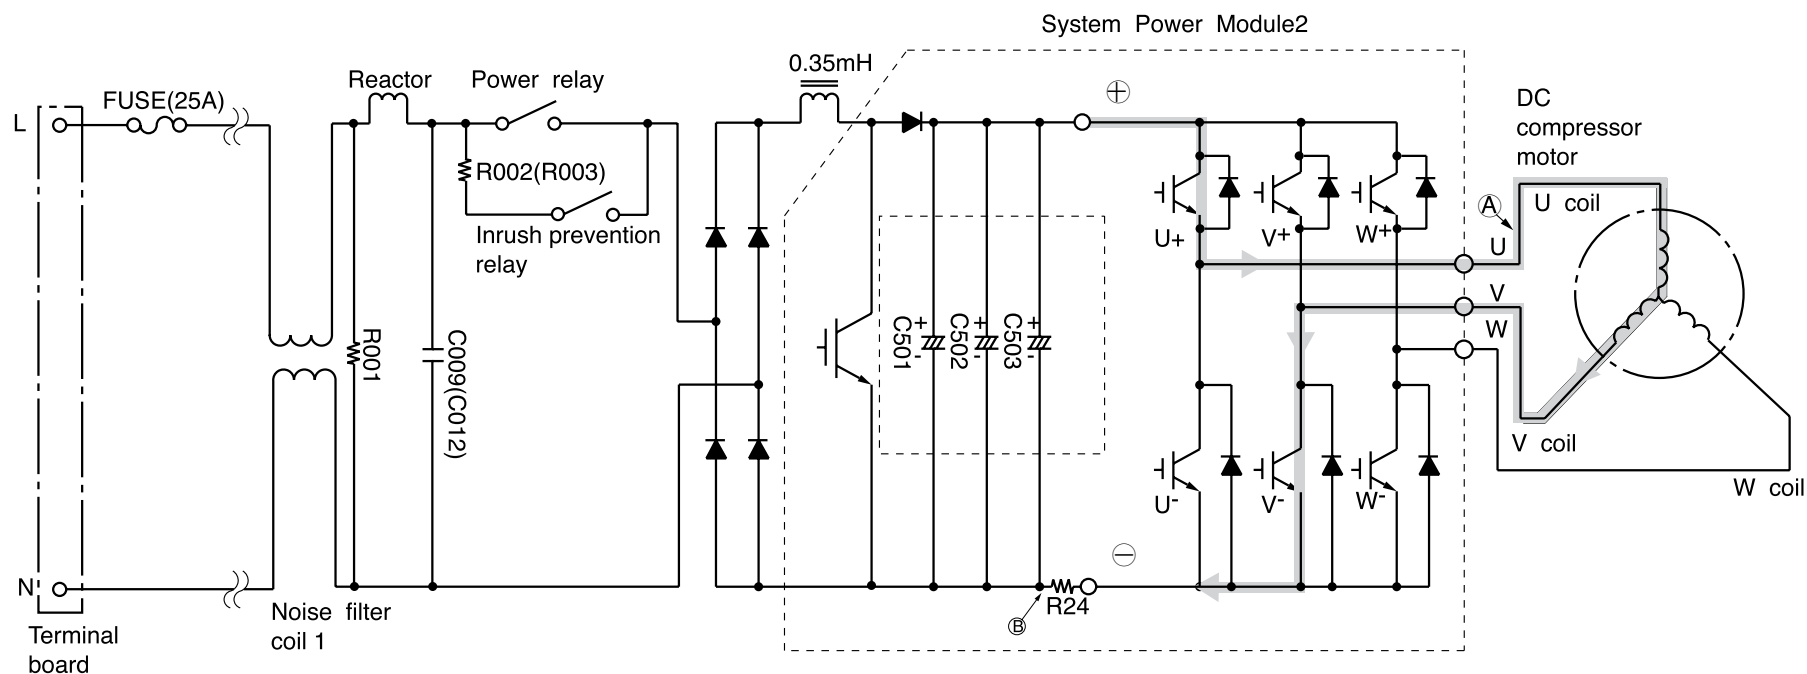
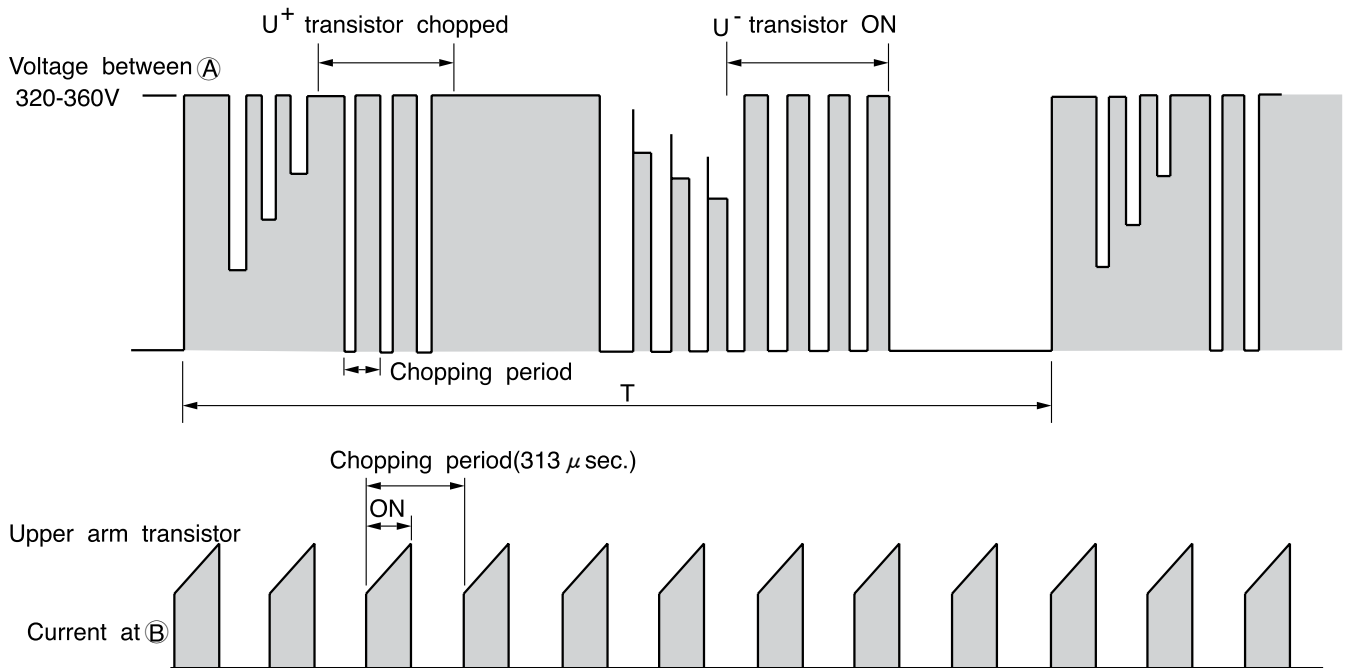

Fig. 3-1 Power module circuit ( $U^+$  is ON,  $V^-$  is ON)
Fig. 3-3 Voltage waveform at each point
- Fig. 3-1 shows the power module and its peripheral circuit.
- RAM-70QH4 and RAM-80QH4 have two power module circuits as shown in Fig. 3-1 because of providing for two cycles and two compressors style.
[ At point E:  $U^+$  is ON,  $V^-$  is ON (circuit in Fig. 3-1)
- Fig. 3-3 shows voltage waveform at each point shown in Fig. 3-1 and 3-4. First half of upper arm is chopper, second half is ON, and first half of lower arm is chopper, second half is ON.
- When power is supplied  $U^+ \rightarrow U^-$ , because of that  $U^+$  is chopped, current flows as shown below; ②
(1) When  $U^+$  transistor is ON:  $U^+ \text{ transistor} \rightarrow U \text{ coil} \rightarrow V \text{ coil} \rightarrow V^- \text{ transistor} \rightarrow \text{DC current detection resistor} \rightarrow \text{Point ②}$  (Fig. 3-1)
- Since current flows at point B only when U+ transistor is ON, the current waveform at point B becomes intermittent waveform as shown in Fig. 3-3. Since current at point B is approximately proportional to the input current of the air conditioner, input current is controlled by using DC current (Id) detection resistor.